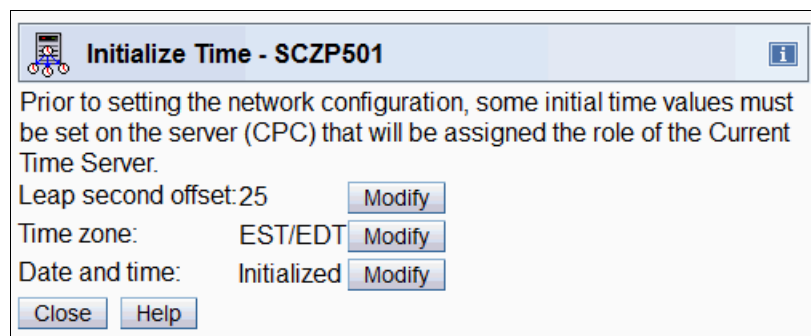

Figure 9-45 System (Sysplex) Time: Initialize Time Panel for Date and time
- a. Click **Modify**, next to Date and time (Figure 9-45).